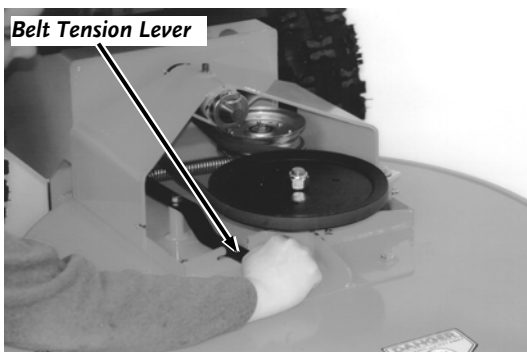

Figure 17
2. Release the Belt Tension Lever (**Figure 17**).